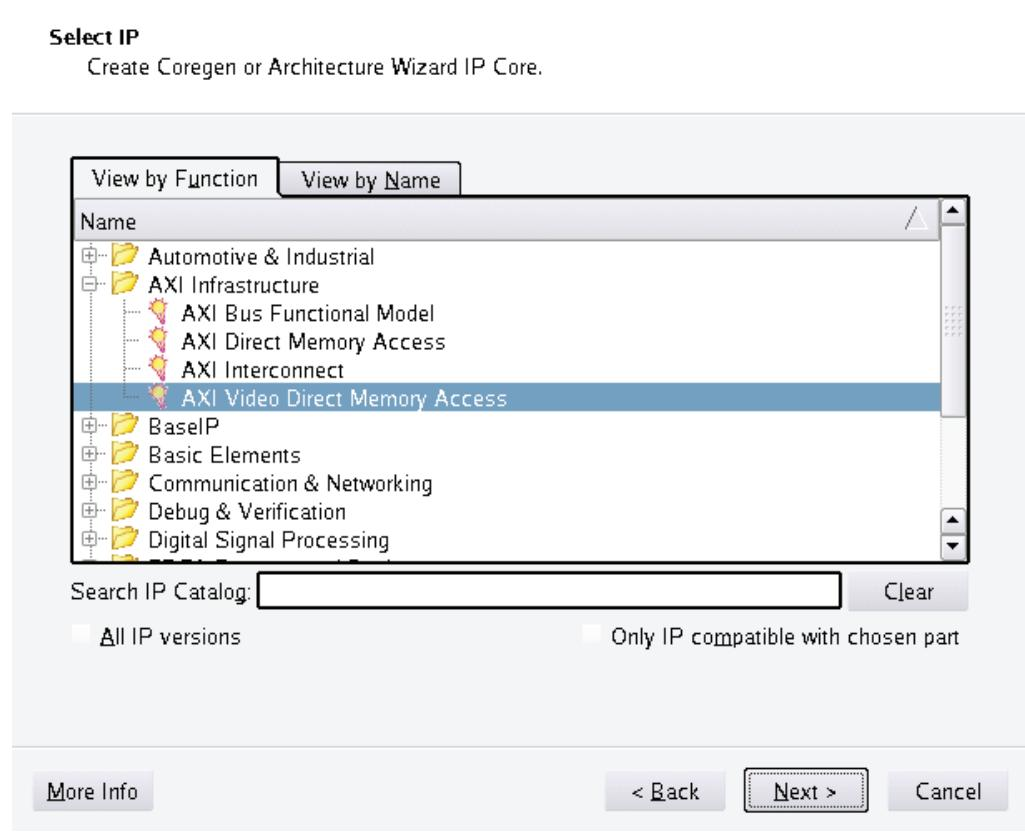

Figure 73: New Source Wizard - Select IP Menu
67. Click the **View by Function** tab, then select **AXI Infrastructure > AXI Video Direct Memory Access** (Version 3.1) and click **Next** (Figure 73).